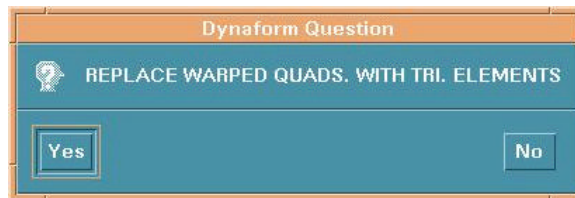

Figure 6.5.7 Replace Warpage Question
2. If there are any failed elements, a DYNAFORM Question appears. See Figure 6.5.7.